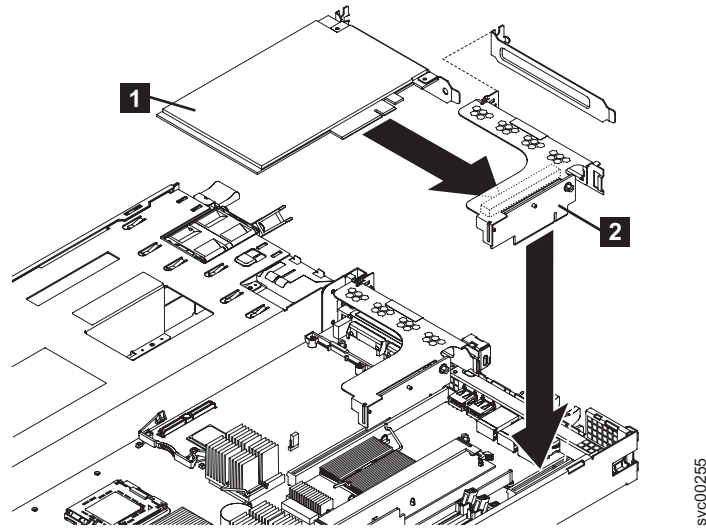

Figure 152. Removing the riser-card assembly from the SAN Volume Controller 2145-8G4
- Grasp the riser-card assembly (**2** in Figure 152) at the rear edge and lift to remove the riser-card assembly.